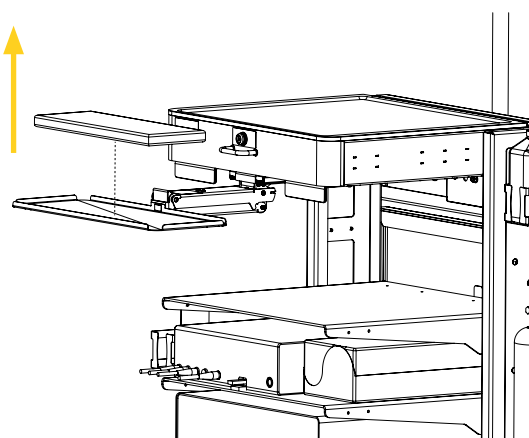

Figure 3: Retracting the keyboard tray
2. Engage the brakes on all four (4) dual wheel swivel casters.
4. Pull the keyboard tray horizontally to retract it, remove the keyboard (Figure 3) and set it aside temporarily.